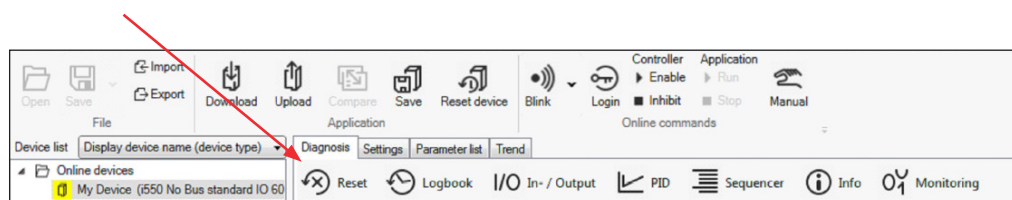

Figure 5.4. Reset button on the Diagnosis tab.
- e. To clear the active error in the drive, go to the **Diagnosis** tab, then click the **Reset** button and the error will go away (Figure 5.4).